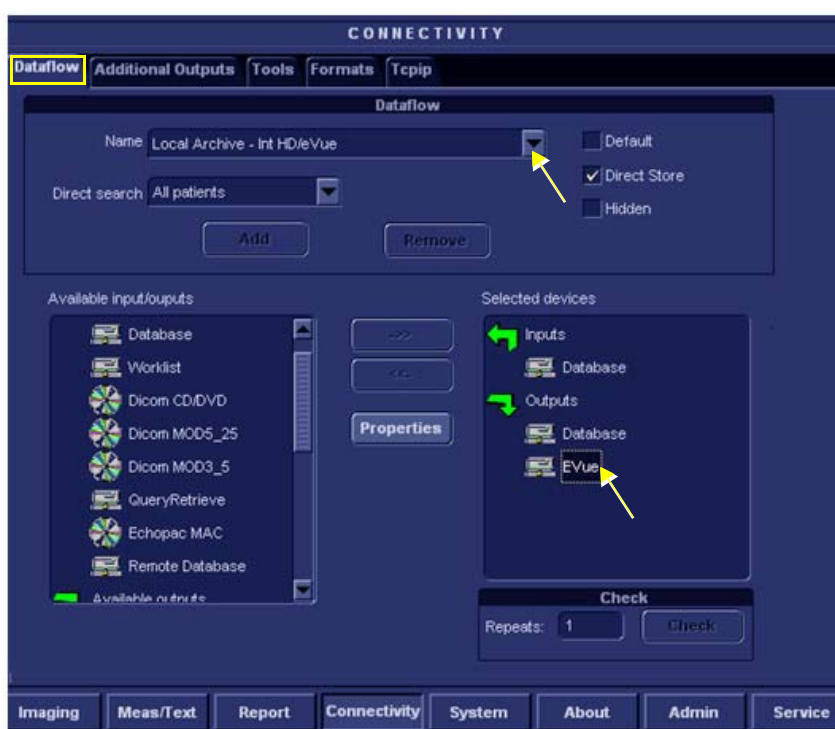

Figure 3-95 Connectivity - Dataflow Tab Selected
- 5.) Select the **Dataflow** Tab, as shown in Figure 3-95 on page 3-105 .
- 8.) Trackball to the *Selected devices* window and select (highlight) **eVue** (see Figure 3-95).